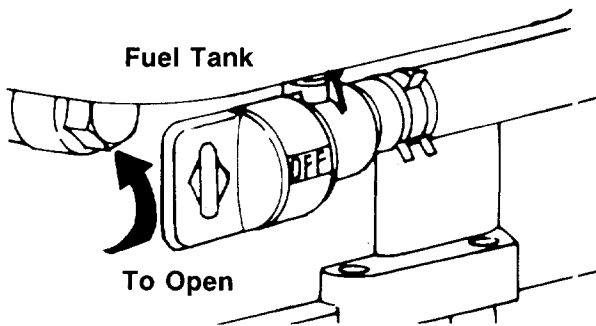

FIGURE 12.
4. Open fuel shut-off valve. See figure 12.